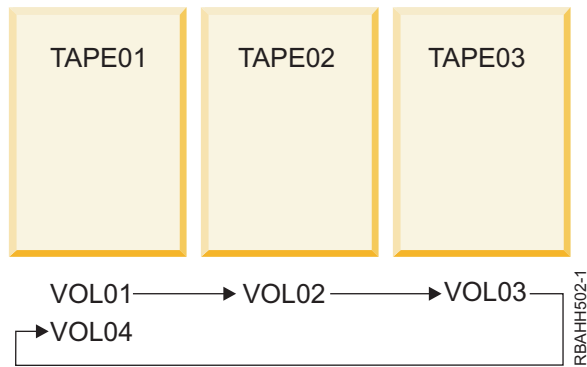

Figure 1. Multivolume-tape-data-file-sequence using three tape devices
- If you specify more than one tape device, then place the volumes on the devices in the sequence that is specified in the tape device file. Refer to the following reference: Figure 1 on page 3. For example: